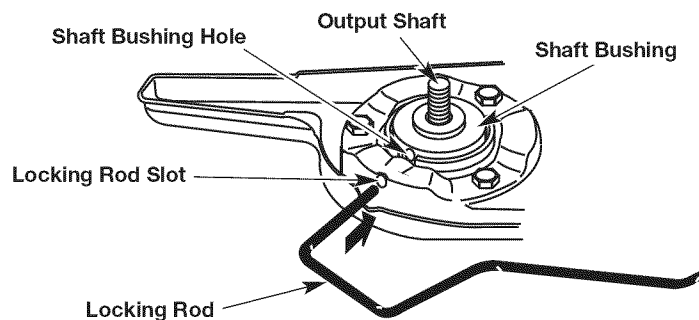

Fig. 13
1. Align the shaft bushing hole with the locking rod slot and insert the locking rod into the bushing hole (Fig. 13).
3. Align the shaft bushing hole with the locking rod slot and insert the locking rod into the bushing hole (Fig. 13).